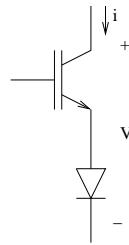

Figure 5.12: Combine Elements 2
2. Block positive and negative  $V$  and carry positive  $i$  (see Figure 5.12).